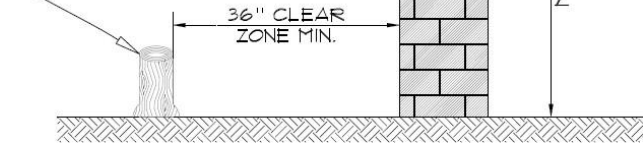

Figure 1
3. Solid barriers which do not have openings, such as a masonry or stone wall, shall not contain indentations or protrusions except for normal construction tolerances and tooled masonry joints. **See Figure 1**.
1. **CLEAR ZONE** There shall be a clear zone of not less than 36 inches (914 mm) around the exterior of the barrier and around any permanent structures or equipment such as pumps, filters and heaters that can be used to climb the barrier. Barriers must be installed at least 36 inches from property line unless legal recorded easement is provided. **SEE FIGURE 1**